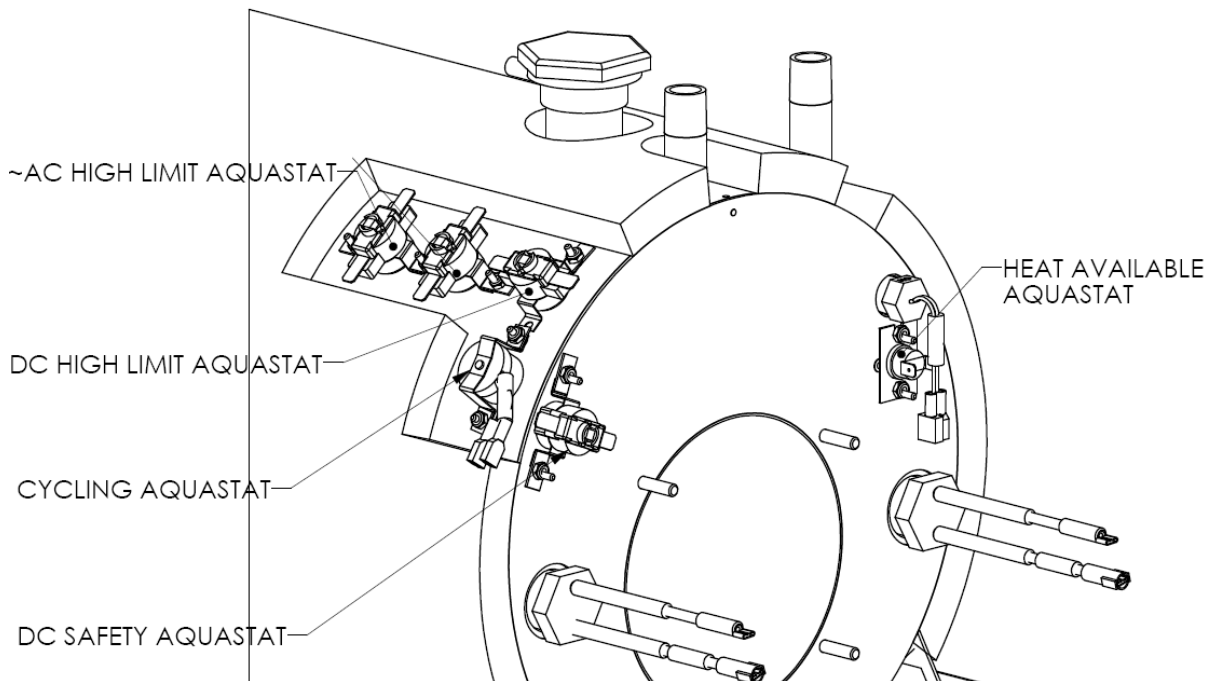

Figure 16: Aquastat mount
5. Use a 1/4" socket to remove the 2 machine screws (see Figure 16) from the upper right hand corner of the burner box.